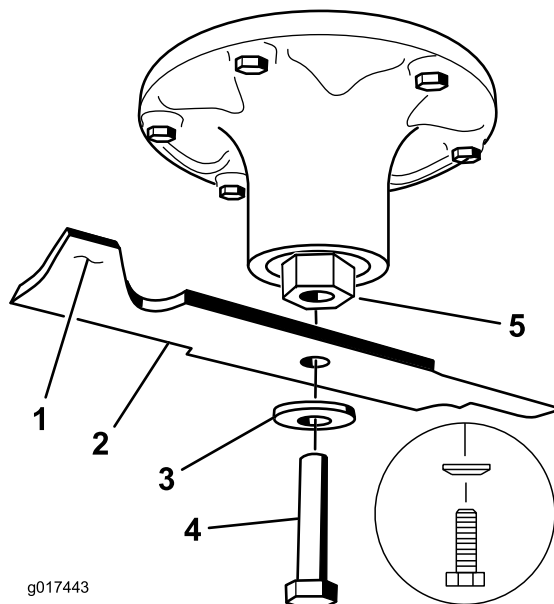

Figure 84
1. Install the blade onto the spindle shaft (Figure 84).
2. Install the spring disk and blade bolt (Figure 84).
Note: The spring-disk cone must be installed toward the bolt head (Figure 84).